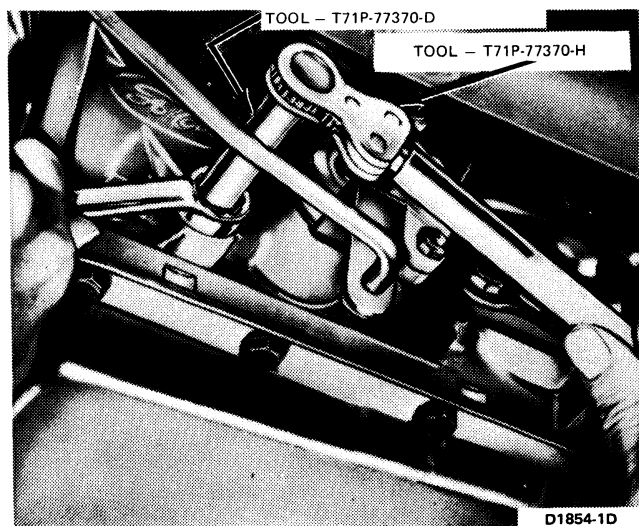

FIG. 4 Adjusting Intermediate Band
2. Install a new locknut on the adjusting screw. With the tool shown in Fig. 4, tighten the adjusting screw until the tool handle clicks. The tool is a pre-set torque wrench which clicks and breaks when the torque on the adjusting screw reaches 13.5 N·m (10 ft-lbs).